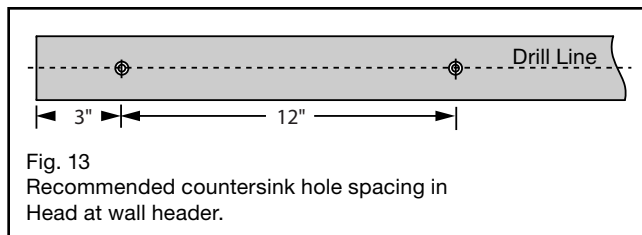

Fig. 13
1. Pre-drill countersink holes in header member. **(Figure 13)**